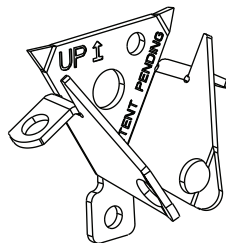

Figure 13
- 5) Loop chain around keeper as shown. **Fig. 13.** Optional Padlock not provided.